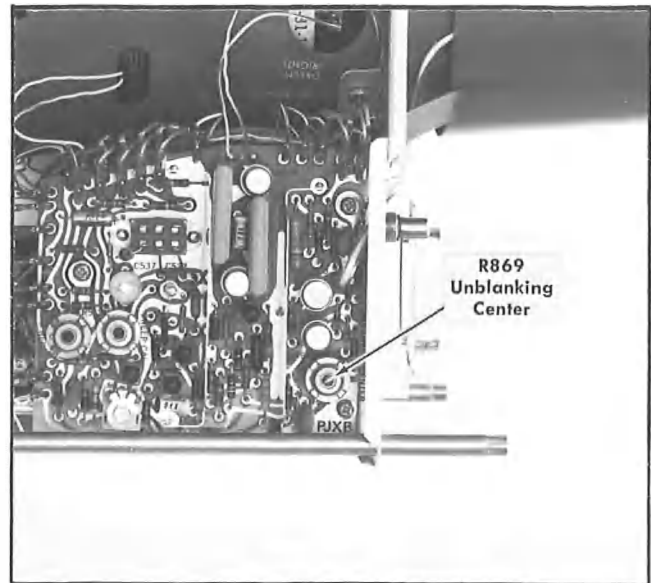

Fig. 5-8. Location of Unblanking Center adjustment (Horizontal Amplifier board).
b. ADJUST—Unblanking Center adjustment R869 (see Fig. 5-8) for maximum trace intensity. This should occur near the center of adjustment range.